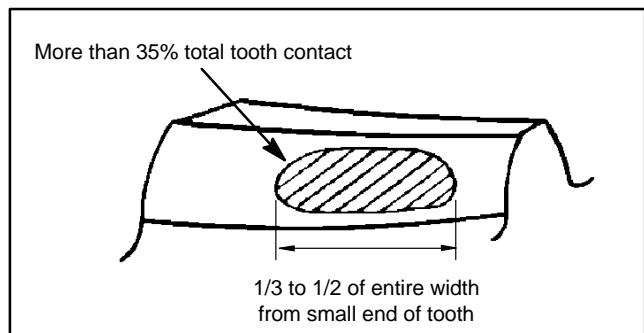

Figure 37
9. Ideal tooth contact should cover more than 35% of each tooth surface. The contact area should be in the center of each tooth and extent 1/3 to 1/2 way across each tooth from the toe (small) end (Fig. 37).